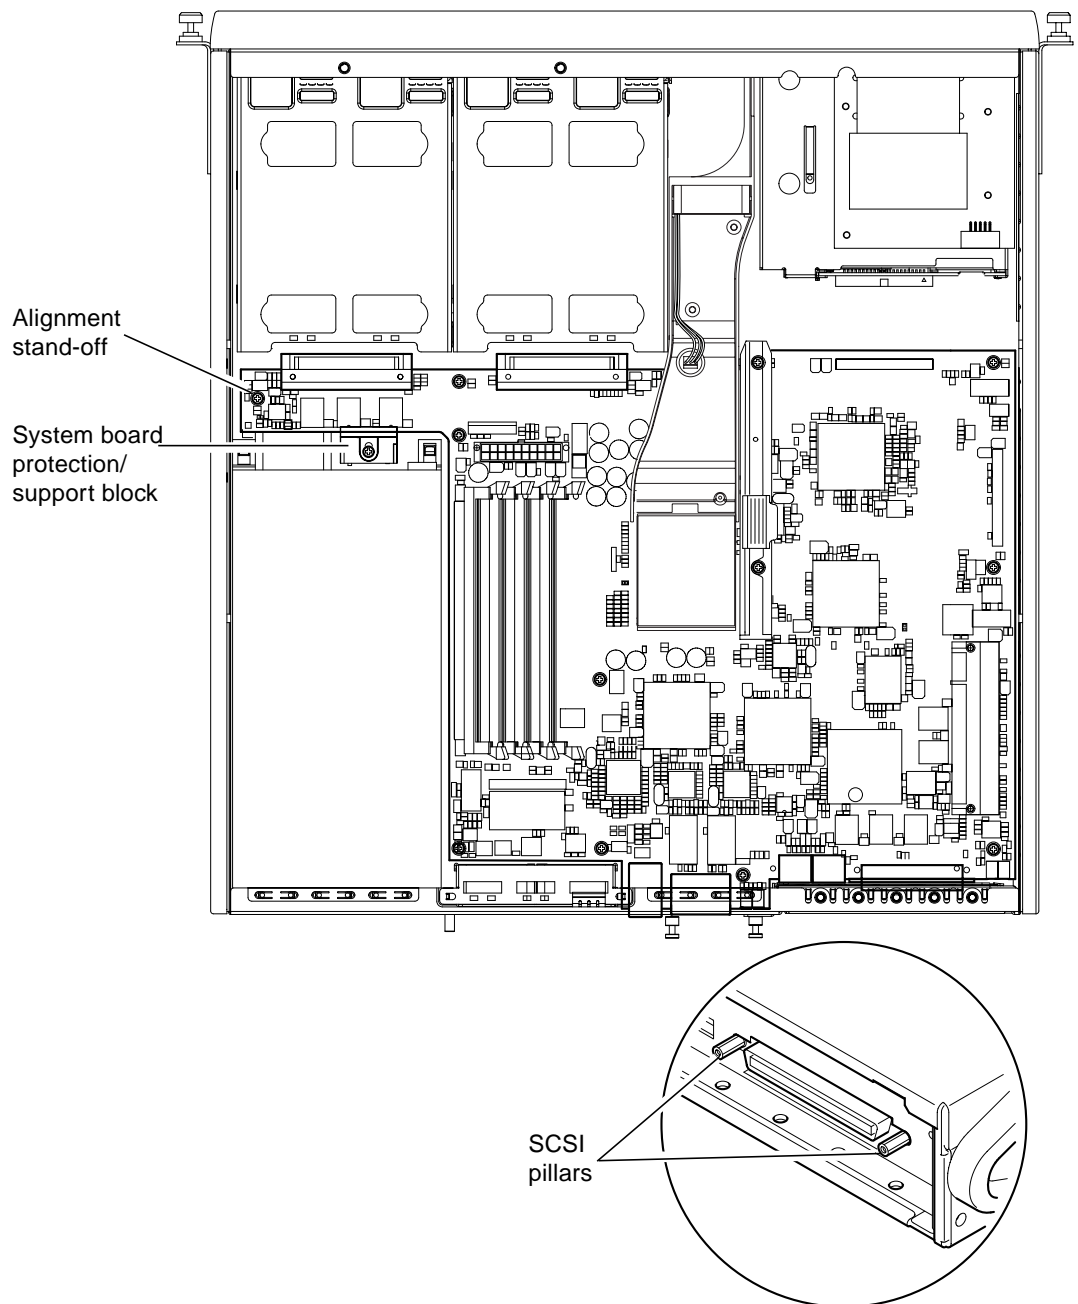

FIGURE 11-7 The System Board
10. **Unscrew the system board protection/support block (between the PSU and Hard Disk Drive bay 1) and slide it back as far as the PSU (see FIGURE 11-7).**
11. **Unscrew and remove the PCI card slide retainer (see FIGURE 11-7).**
12. **Unscrew all system board fixing screws (see FIGURE 11-7).**
13. **Unscrew the SCSI pillars on the back panel (see FIGURE 11-7).**
3. Now position the system board on the alignment stand-off between the PSU fan and hard disk drive bay 1 (see FIGURE 11-7).
4. Insert the SCSI pillars (see FIGURE 11-7) and replace their screws loosely.
5. Insert all system board fixing screws loosely (see FIGURE 11-7). Do not put any screws in the holes for the PCI card slide retainer.
12. Slide the system board protection/support block forward until it engages with the system board (see FIGURE 11-7).